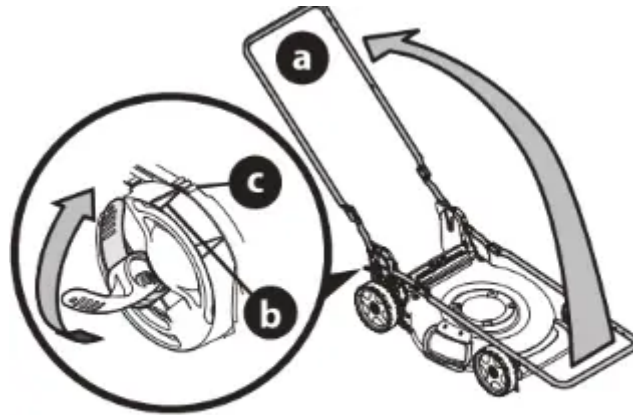

Figure 13
5. While stabilizing mower so it doesn't move, lift the upper handle up (a) (Figure 13). Do not crimp blade or drive control cables while lifting the handle up.
6. When lifting the upper handle ensure the position indicator (b) aligns with one of three handle positions (c), See inset, Figure 13.
7. Lock the two handle release levers. See inset, Figure 13.